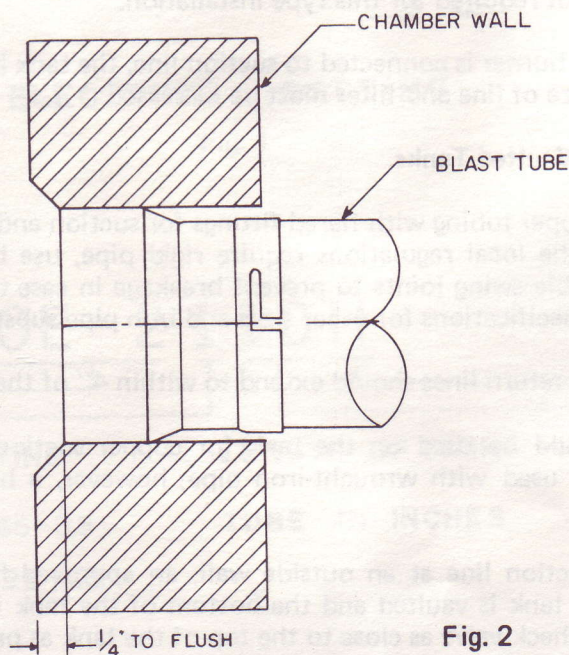

Fig. 2
- 5.4 The end of the air tube should be $\frac{1}{4}"$ back to flush with inside of the chamber wall. Improper insertion will distort the fire. See Fig. 2.